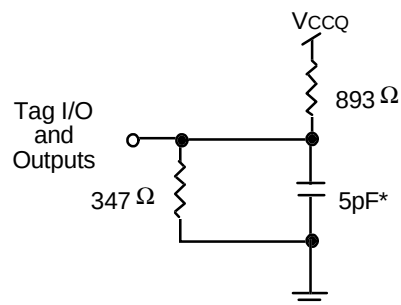

Figure 3. AC Test Load
- This parameter is guaranteed with the AC Load (Figure 3) by device characterization, but is not production tested.
3. This parameter is guaranteed with the AC Load (Figure 3) by device characterization, but is not production tested.
1. This parameter is guaranteed with the AC Load (Figure 3) by device characterization, but is not production tested.